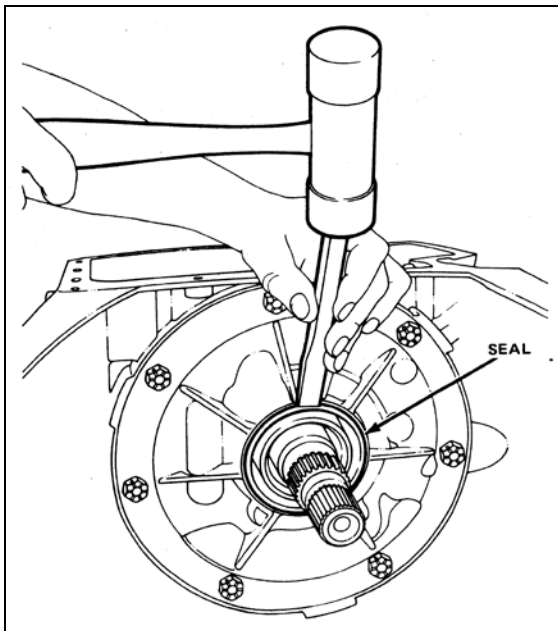
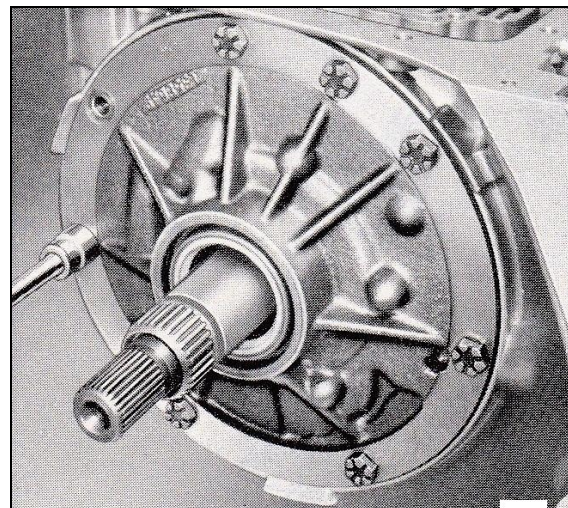

FIGURE 2-45
FIGURE 2-46
Remove the front seal (2) from the pump body (201). See Figure 2-45. Avoid damaging or gouging the seal bore in the pump body. Seal removal is easier while the oil pump is still bolted to the transmission case. Remove the six or eight (model dependant) pump to case bolts (4). See Figure 2-46.